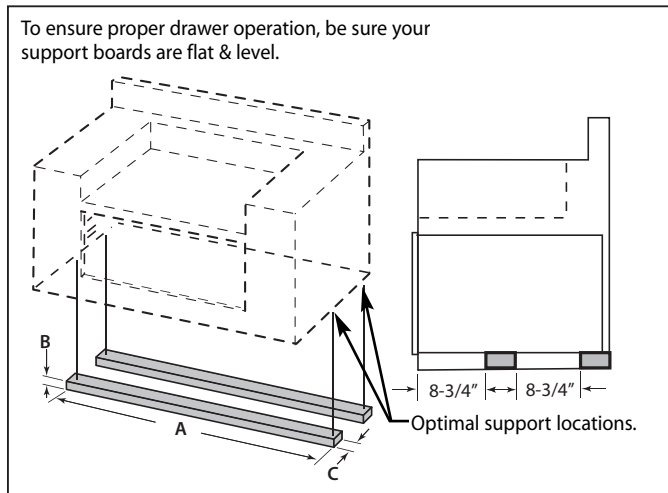

Fig. 4
2. Place 2 X 4s to provide support for the Access Drawers structure in the locations indicated in the figure below (Fig. 4).